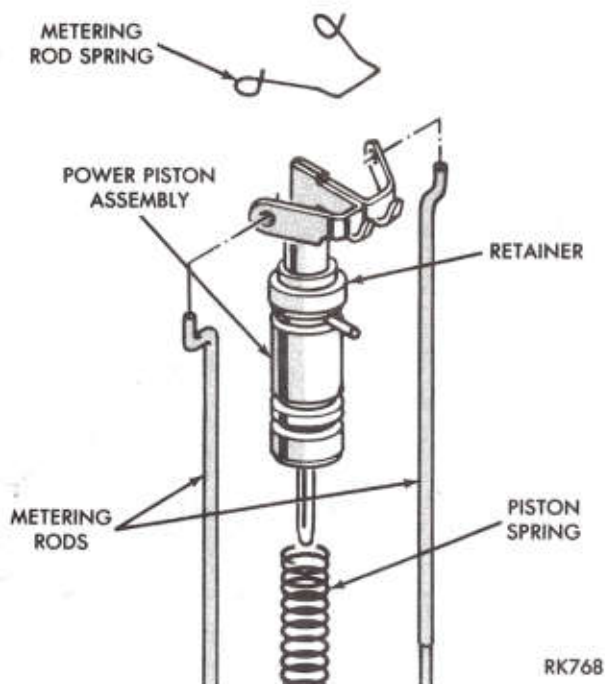
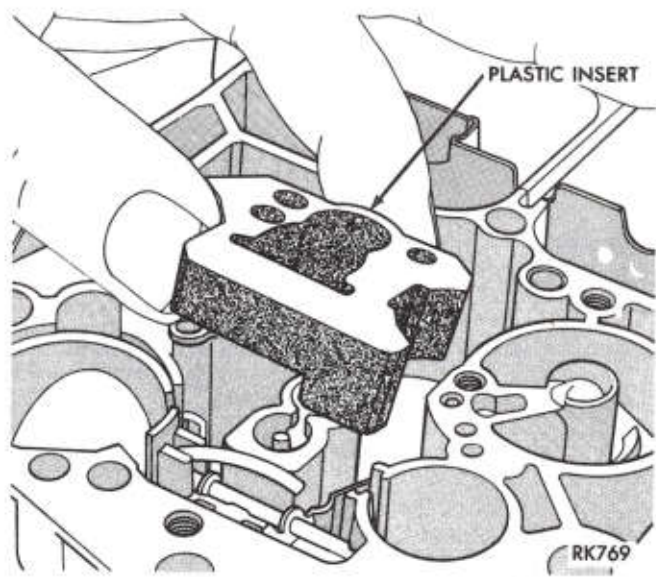
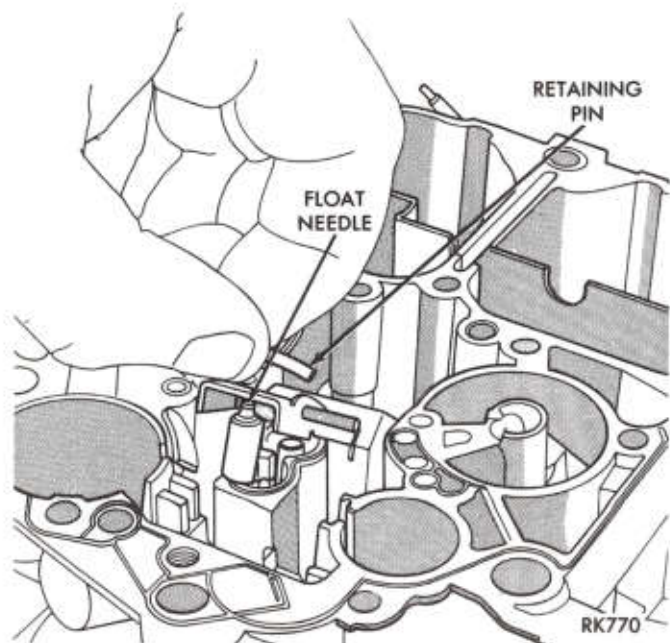

Fig. 19—Power Piston Assembly
Fig. 20—Removing Plastic Filler Block
Fig. 21—Removing Float
(6) Separate metering rods from power piston by disconnecting tension spring from top of each rod (Fig. 19). Note the position of the tension spring for reinstallation.
(7) Remove plastic filler block float bowl (Fig. 20).
(8) Remove float assembly by pulling up on retaining pin (Fig. 21).
(17) To make adjustment easier, carefully bend float arm upward at the notch in arm before assembly.
(18) Install float needle onto float arm by sliding float lever under needle pull clip. Proper installation of the needle pull clip is to hook the clip over the edge of the float on the float arm, facing the float pontoon.
(19) Install float hinge pin onto float arm with end of loop of pin facing pump well. Install float assembly by aligning needle in the seat, and the float hinge pin into locating channels in float bowl. Do not install float needle pull clip into holes in float arm (Fig. 21).
(20) Perform float adjustment.
(21) Install plastic filler block over the float needle (Fig. 20).
(22) Install power piston spring in the power piston well.
(23) If removed, install metering rods to hanger, making sure tension spring is attached to the top of each rod (Fig. 19).
(24) Install power piston into well making sure metering rods are properly positioned in metering jets. Press down firmly on plastic retainer until retainer is seated. If necessary, use a small drift punch and small hammer to tap retainer in place lightly.
(25) Install pump return spring in well.